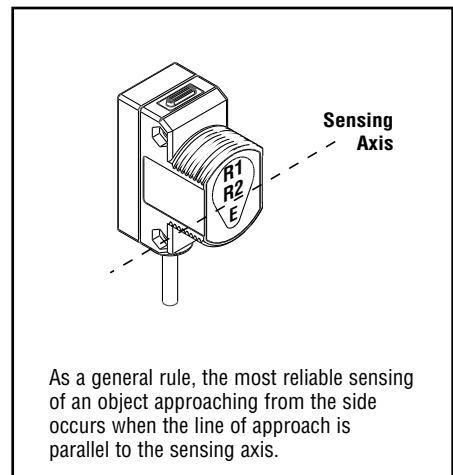
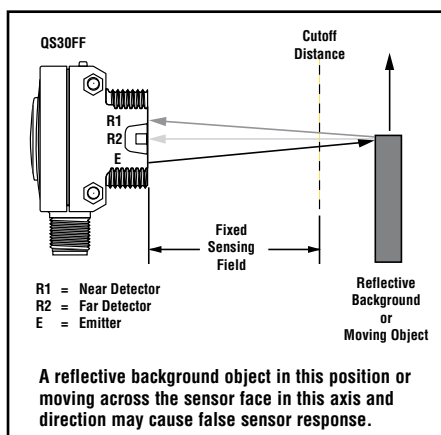

Figure 2. Fixed-field sensing axis
Figure 5. Object beyond cutoff – problem
In operation, the QS30FF compares the reflections of its emitted light beam (E) from an object back to the sensor's two differently-aimed detectors R1 and R2 (see Figure 2). If the near detector (R1) light signal is stronger than the far detector (R2) light signal (see object A, closer than the cutoff distance), the sensor responds to the object. If the far detector (R2) light signal is stronger than the near detector (R1) light signal (see object B, object beyond the cutoff distance), the sensor ignores the object.
In the drawings and discussion on these pages, the letters E, R1, and R2 identify how the sensor's three optical elements (Emitter "E", Near Detector "R1", and Far Detector "R2") line up across the face of the sensor. The location of these elements defines the sensing axis (see Figure 2). The sensing axis becomes important in certain situations, such as those illustrated in Figures 5 and 6.
An object beyond the cutoff distance, either stationary (and when positioned as shown in Figure 5), or if it moves past the face of the sensor in a direction perpendicular to the sensing axis, can cause unwanted triggering of the sensor if it reflects more light to the near detector than to the far detector. The problem is easily remedied by rotating the sensor 90° (Figure 6). The object then reflects the R1 and R2 fields equally, resulting in no false triggering. A better solution, if possible, may be to reposition the object or the sensor.